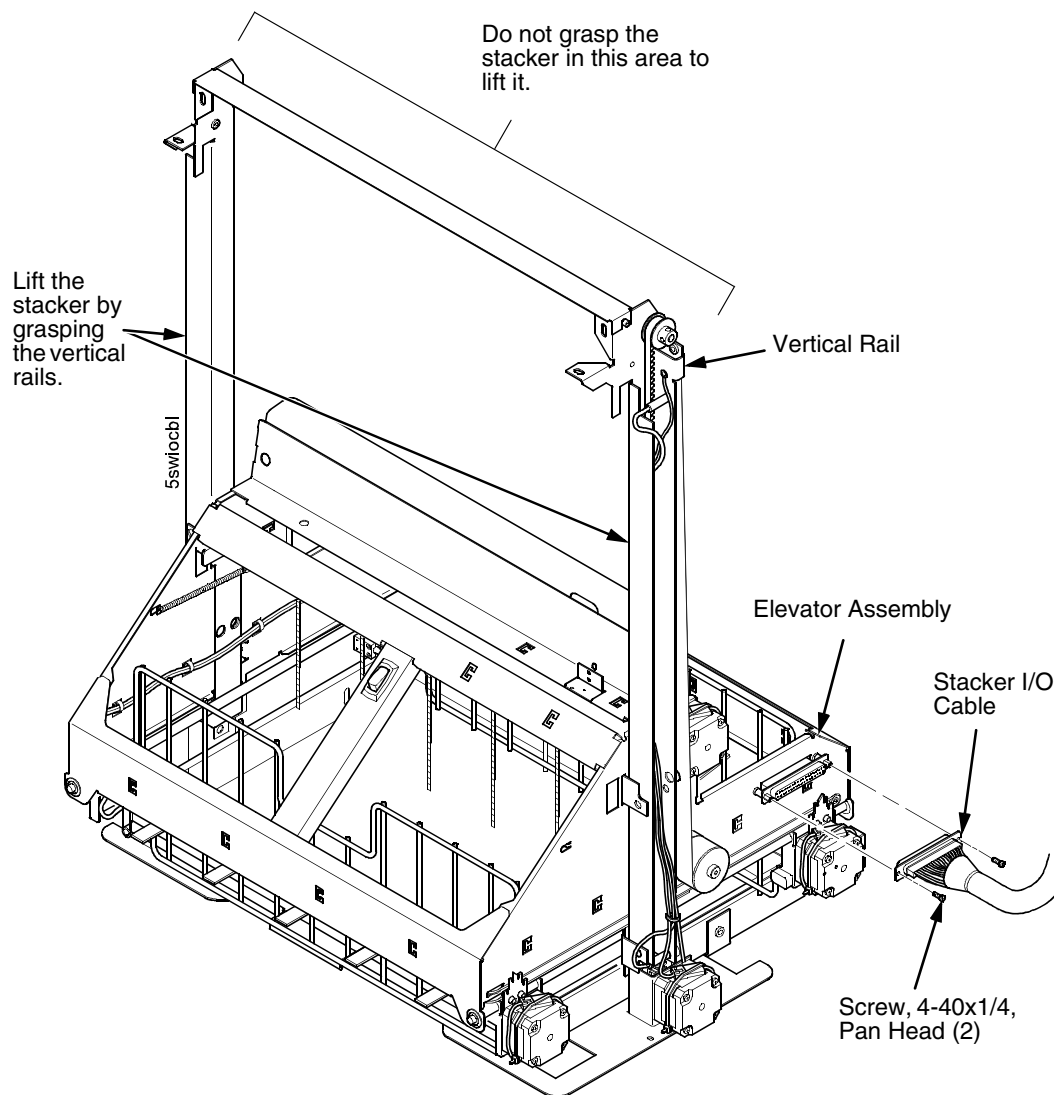

Figure 77. Disconnecting the Stacker I/O Cable
12. Remove the two 4-40 x 1/4 inch screws securing the elevator I/O cable to the elevator assembly and disconnect the stacker I/O cable. (Figure 77.)